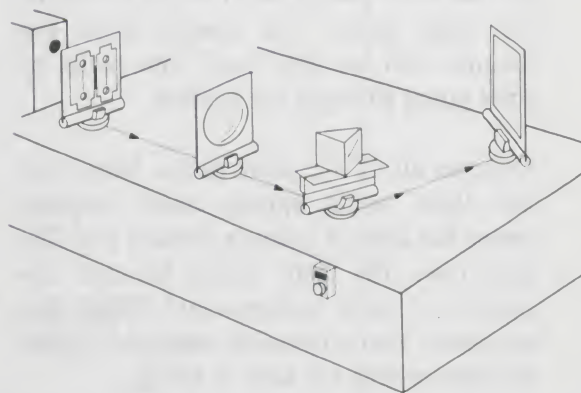

Figure 12. This spectrophotometer uses a prism to break up the light. It is similar in many respects to the grating spectrophotometer.
1. *Set up a different spectrophotometer using a prism instead of a grating to break up the light.* Use the same template but place the components as shown in Figure 12.